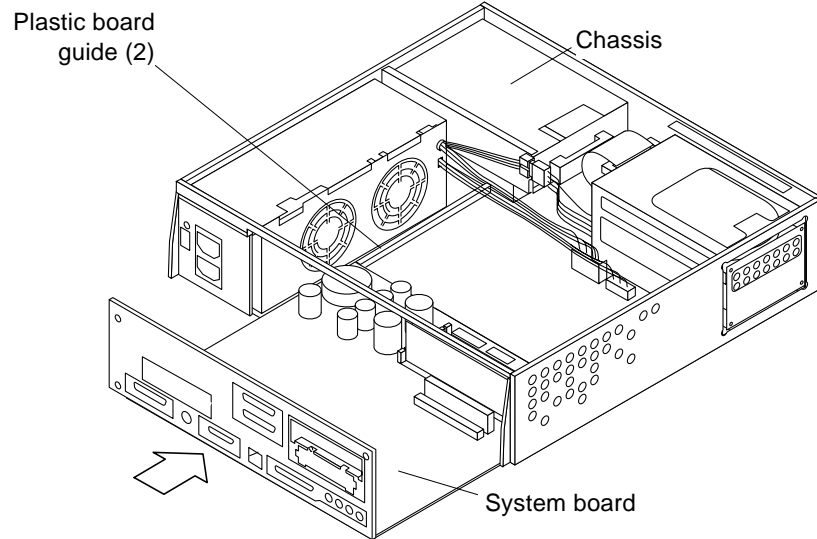

Figure 3-3 Sliding the System Board Into The Chassis
4. Slide the system board into the chassis. Verify that both sides of the system board fit into the plastic board guide slots in the base of the chassis (Figure 3-3).